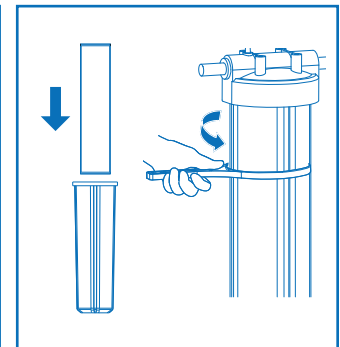

Figure 15
6. Re-install the pre-filter cartridge, and flush each individual water line as above until no chlorine odor is detected (Figure 15).